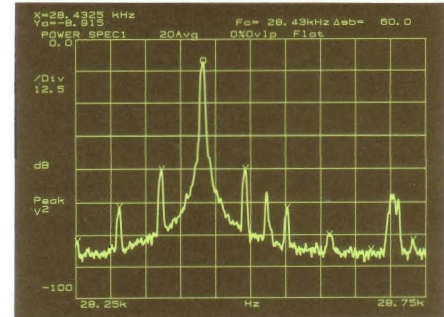
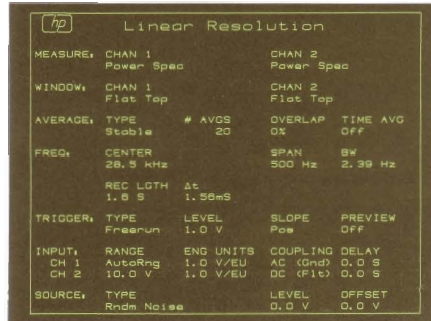

Figure 5-6
Figure 5-7
**8. Sideband Frequency** Select the **SBAND INCRMT** (sideband increment) softkey and enter the powerline frequency (50, 60 or 400 Hz). The spectrum display should be similar to Figure 5-6.
**9. Display Power** Select the **SBAND POWER** softkey to display the sideband power value as shown in Figure 5-6.
This example begins with the modulated spectrum shown in Figure 5-6; the setup state for this zoom measurement is shown in Figure 5-7. The following procedure is a demonstration of AM demodulation of this signal with the HP 3562A.